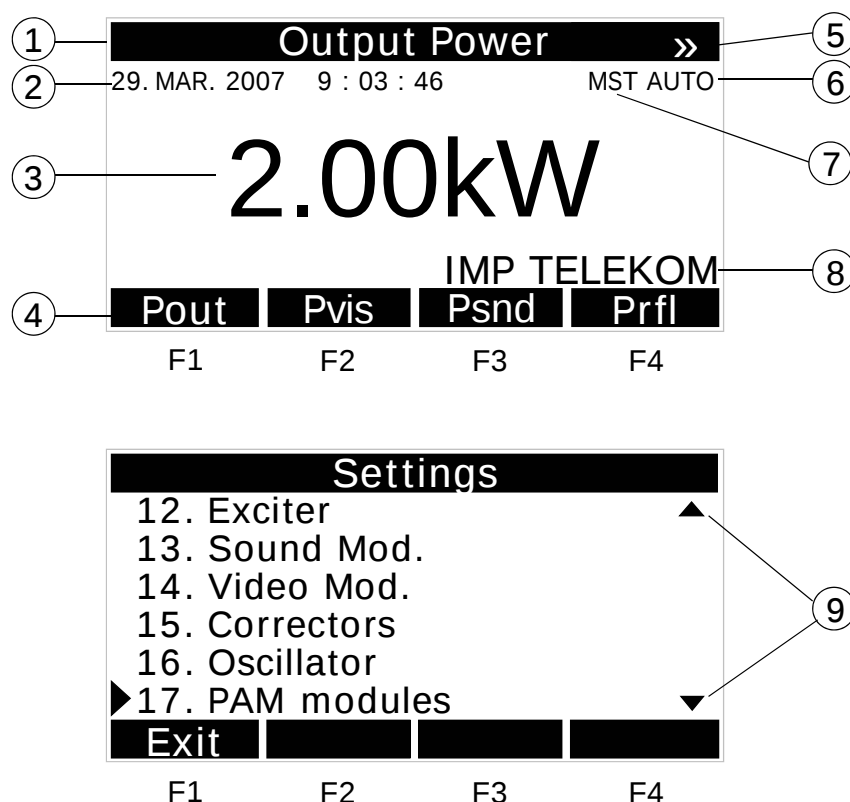

Figure 2: Display
Layout of display is shown on Figure 2. Status line (1) shows description of the current view. Function buttons line (4) describes current function of the function buttons F1 – F4. By rotating encoder wheel it is possible to access more functions accessible with function buttons. This option is shown by arrow (5) appearing on upper left or right side of display. If arrow (9) appears on either top or bottom right side of display it means that we can access more parameters by rotating encoder wheel. We can see time and date (2) of the microcontroller real time clock. On the upper right side the current power switch state (6) is shown. This side also contains information about double drive option, if selected. (7) Transmitter identification string (8) is also shown on display. The main area of display (3) shows selected measurement, settings, etc.